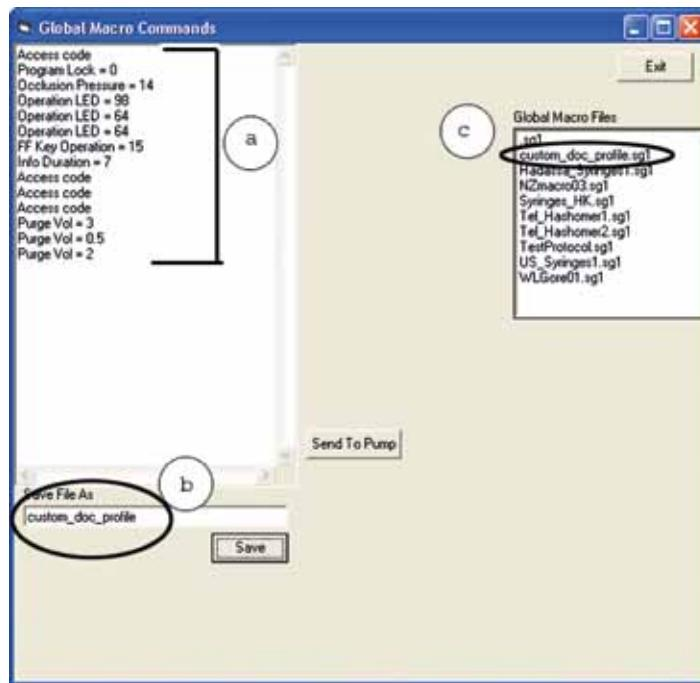

Figure 39. Global Macro screen, new macro
All of the changes that you make manually to the pump settings are recorded in the left panel on the Global Macro screen (Figure 39). To group the changes in a global macro file that you can run on additional pumps, do the following:
- Check that the macro phrases in the left panel (Figure 39, a) are as you require.
- Enter a name for the new macro in the Save File As box (Figure 39, b).
- Click Save. The new macro is saved with the name you provided and is added to the Global Macro Files list (Figure 39, c).